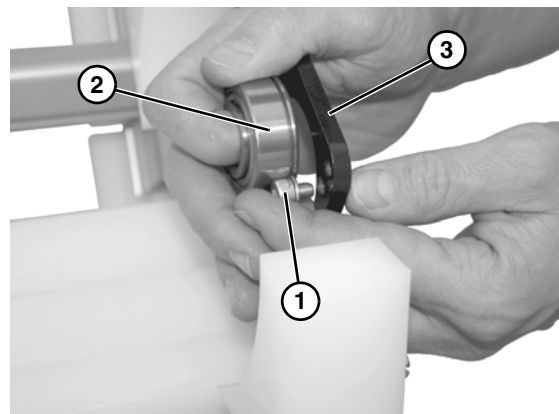

Figure 75
5. Remove three socket head screws and washers (**Figure 75, item 1**) that retain bearing (**Figure 75, item 2**) to support bar (**Figure 75, item 3**). Repeat on opposite side.